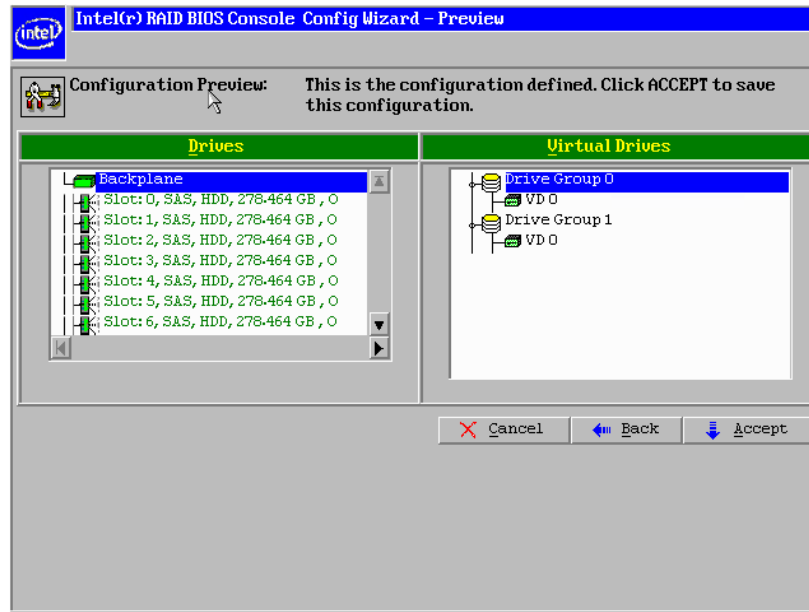

Figure 22. Intel® RAID BIOS Console 2 Configuration Wizard – view virtual drive preview
12. The configuration preview screen displays the virtual drive as shown in Figure 22. The configuration preview screen displays the virtual drive (RAID 1 for RAID 10, or RAID 50 or RAID 60). Click **Accept** to save the configuration.